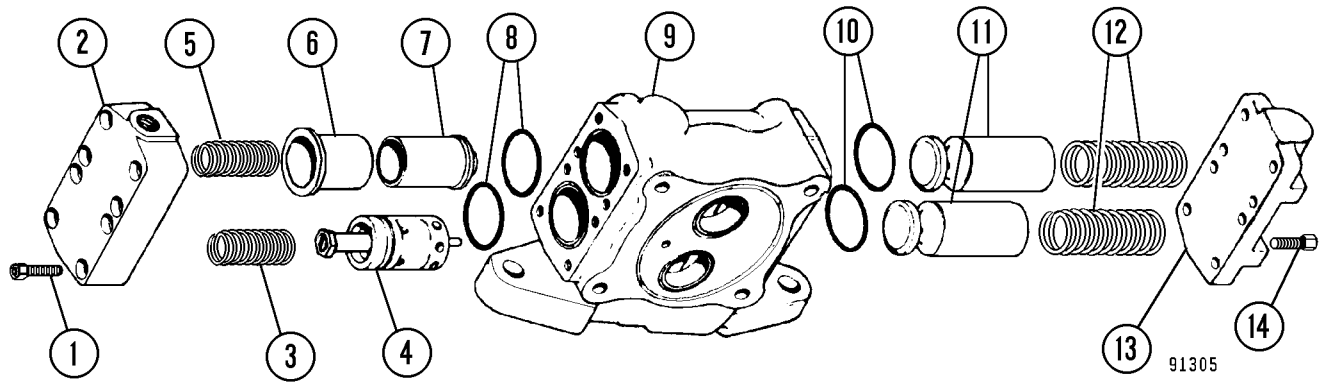
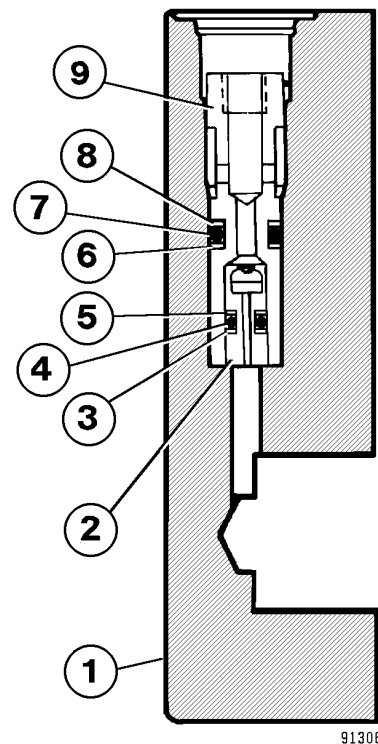

FIGURE 8-5. INLET SECTION DISASSEMBLY
FIGURE 8-6. RESTRICTOR POPPET REMOVAL (Inlet Cover)
- Disconnect the external tube (7, Figure 8-2) at the cover end and remove. Remove capscrews (14, Figure 8-5), remove cover (13). Remove springs (12), poppets (11) and O-rings (10).
- Remove capscrews (1) and cover (2). Remove springs (3 & 5) and main relief valve (4). Remove sleeve (6), low pressure relief (7) and O-rings (8). The main relief valve (4) is factory preset at 2500 psi (17.2 MPa). Replace as a complete assembly only.
*NOTE: If restrictor poppet removal in cover (2, Figure 8-5) is required, refer to step 4 and figure 8-6.*
- Remove sleeve (9), backup ring (8), O-ring (7), backup ring (6). Remove backup ring (5), O-ring (4), backup ring (3) and restrictor poppet (2).